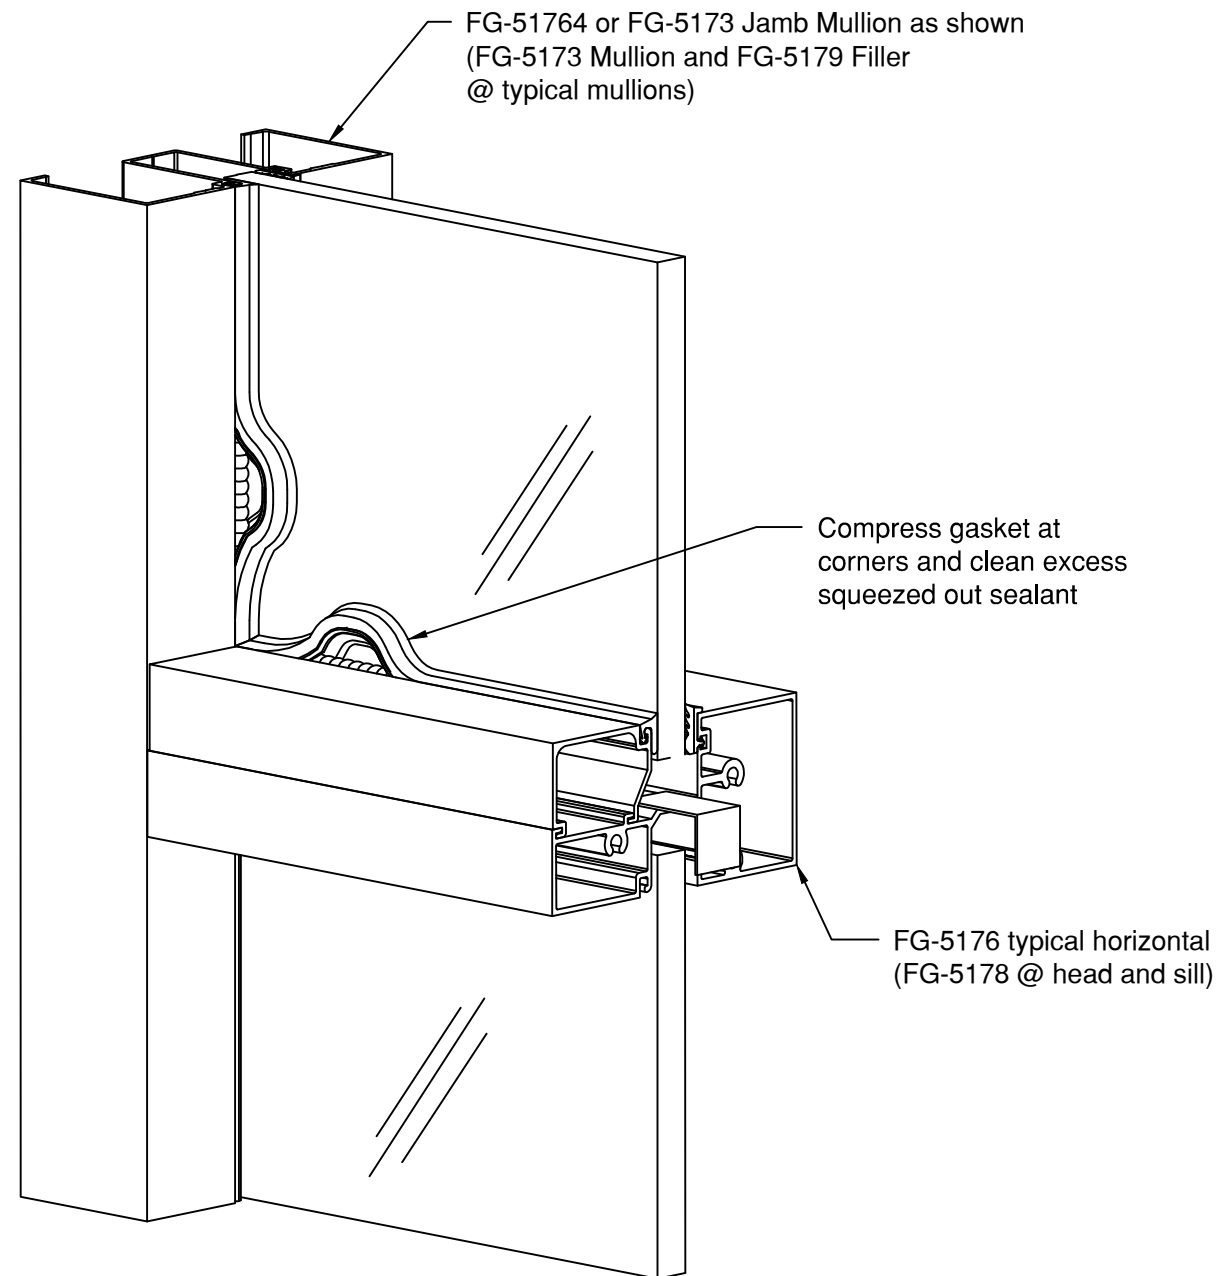

Figure 19
- 4D.2.5 After gaskets are pressed in to place, pull gasket from pocket as shown in Figure 18 above. Clean class and gaskets a minimum of 2" from each end with isopropyl alcohol. Apply Dow Corning® 795/995 sealant see Figure 18. Push gaskets into reglet, **See figure 19 on sheet 12.**